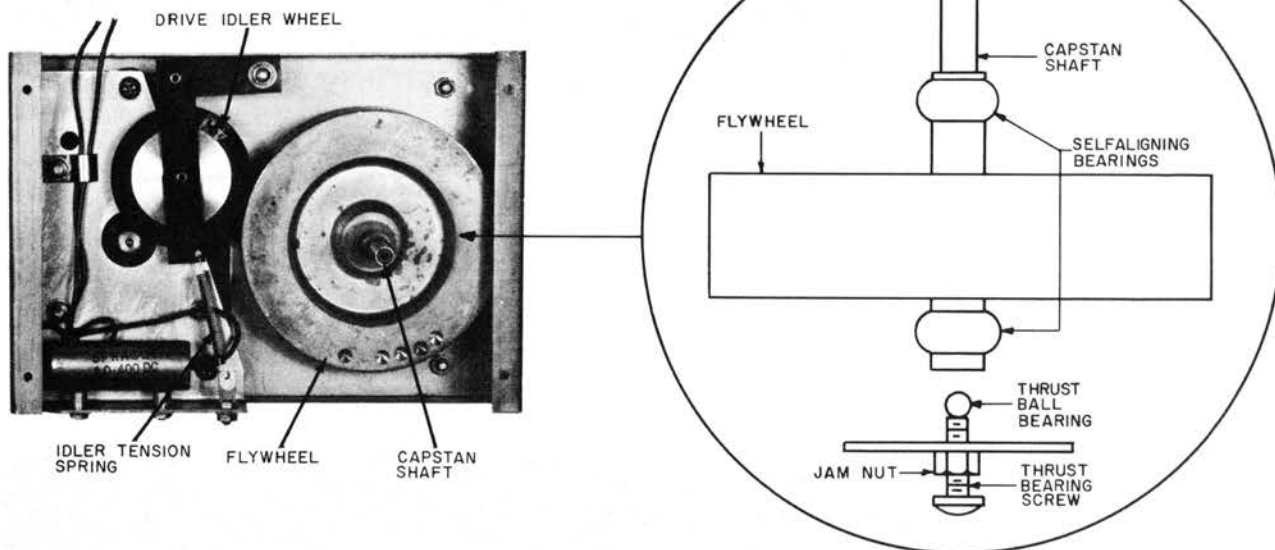

Figure 3. Top of motor frame.
5.05 Drive system alignment is accomplished as follows (refer to figures 3 and 4):